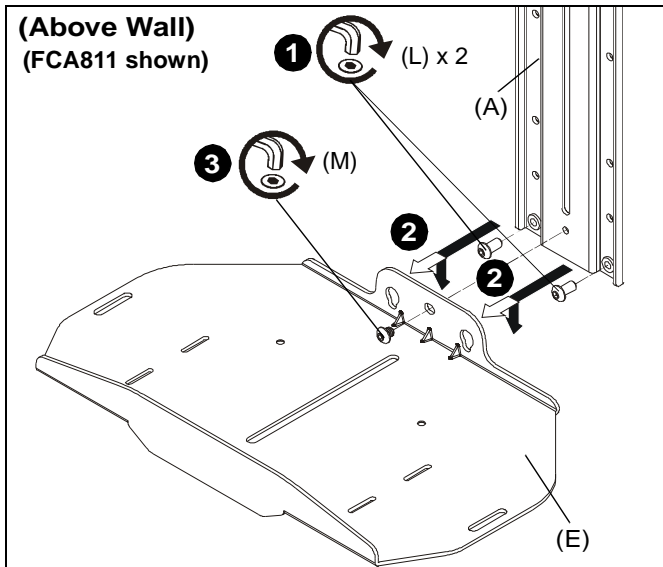
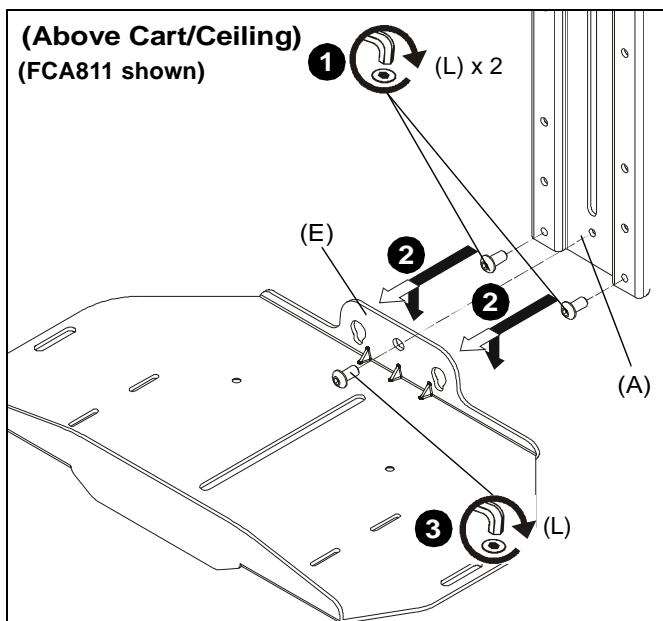

Figure 14
Figure 15
1. Install two 1/4-20 x 1/2" button head cap screws (L) into lowest holes on upright bracket (A). (See Figure 14) or (See Figure 15)
2. Hang shelf (E) onto two screws installed in Step 1. (See Figure 14) or (See Figure 15)
3. Secure upright bracket (A) to shelf (E) using:
- 1/4-20 x 1/4" button head cap screw (M) if installing to wall mount. (See Figure 14)
- 1/4-20 x 1/2" button head cap screw (L) if installing to cart/ceiling mount. (See Figure 15)